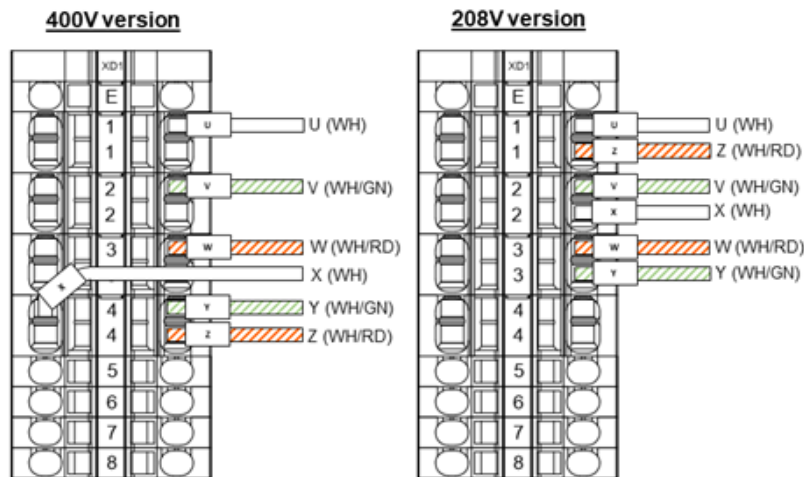

Figure 31. Wiring configurations for different voltages
2. Reposition the wires in the wire terminal as shown in Figure 31. Use a flat bladed screwdriver to release the spring clamp terminals and remove the ferruled wire. Push the ferruled wire into the new location, using a flat bladed screwdriver to release the terminal first.